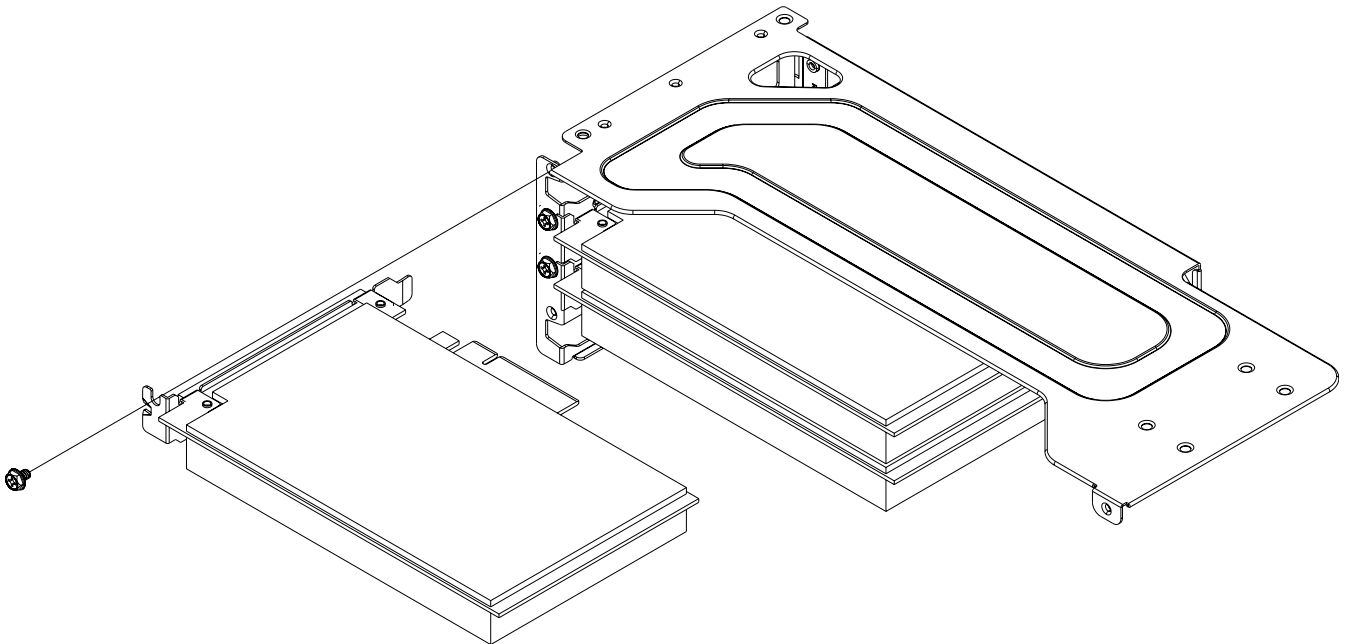

Figure 6-11 Remove/Replace Full-height PCIe Card in Bracket
5. Insert the expansion card into the bracket assembly and secure it with the screw provided, see Figure 6-11 on page 57 for an example. Note that a PCIe card up to 10.5-inches in length is supported.